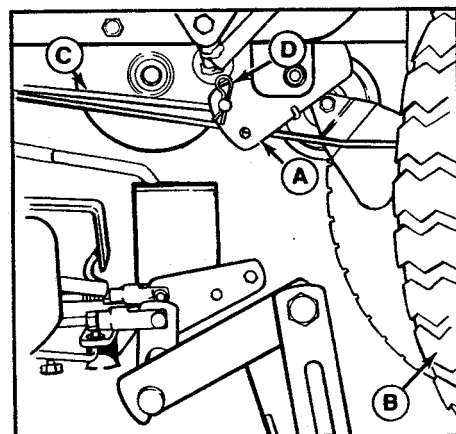

Figure 5B. PTO Rod
9. Attach the PTO rod to the tractor PTO lever in hole marked "MOW" with the spring clip provided (figure 5B).